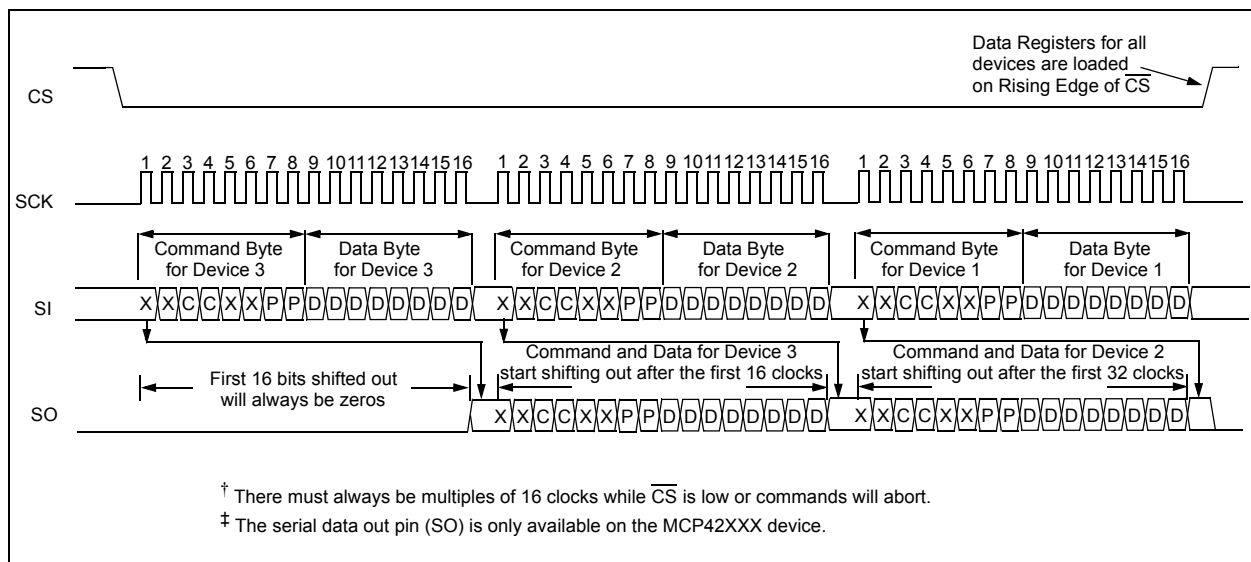
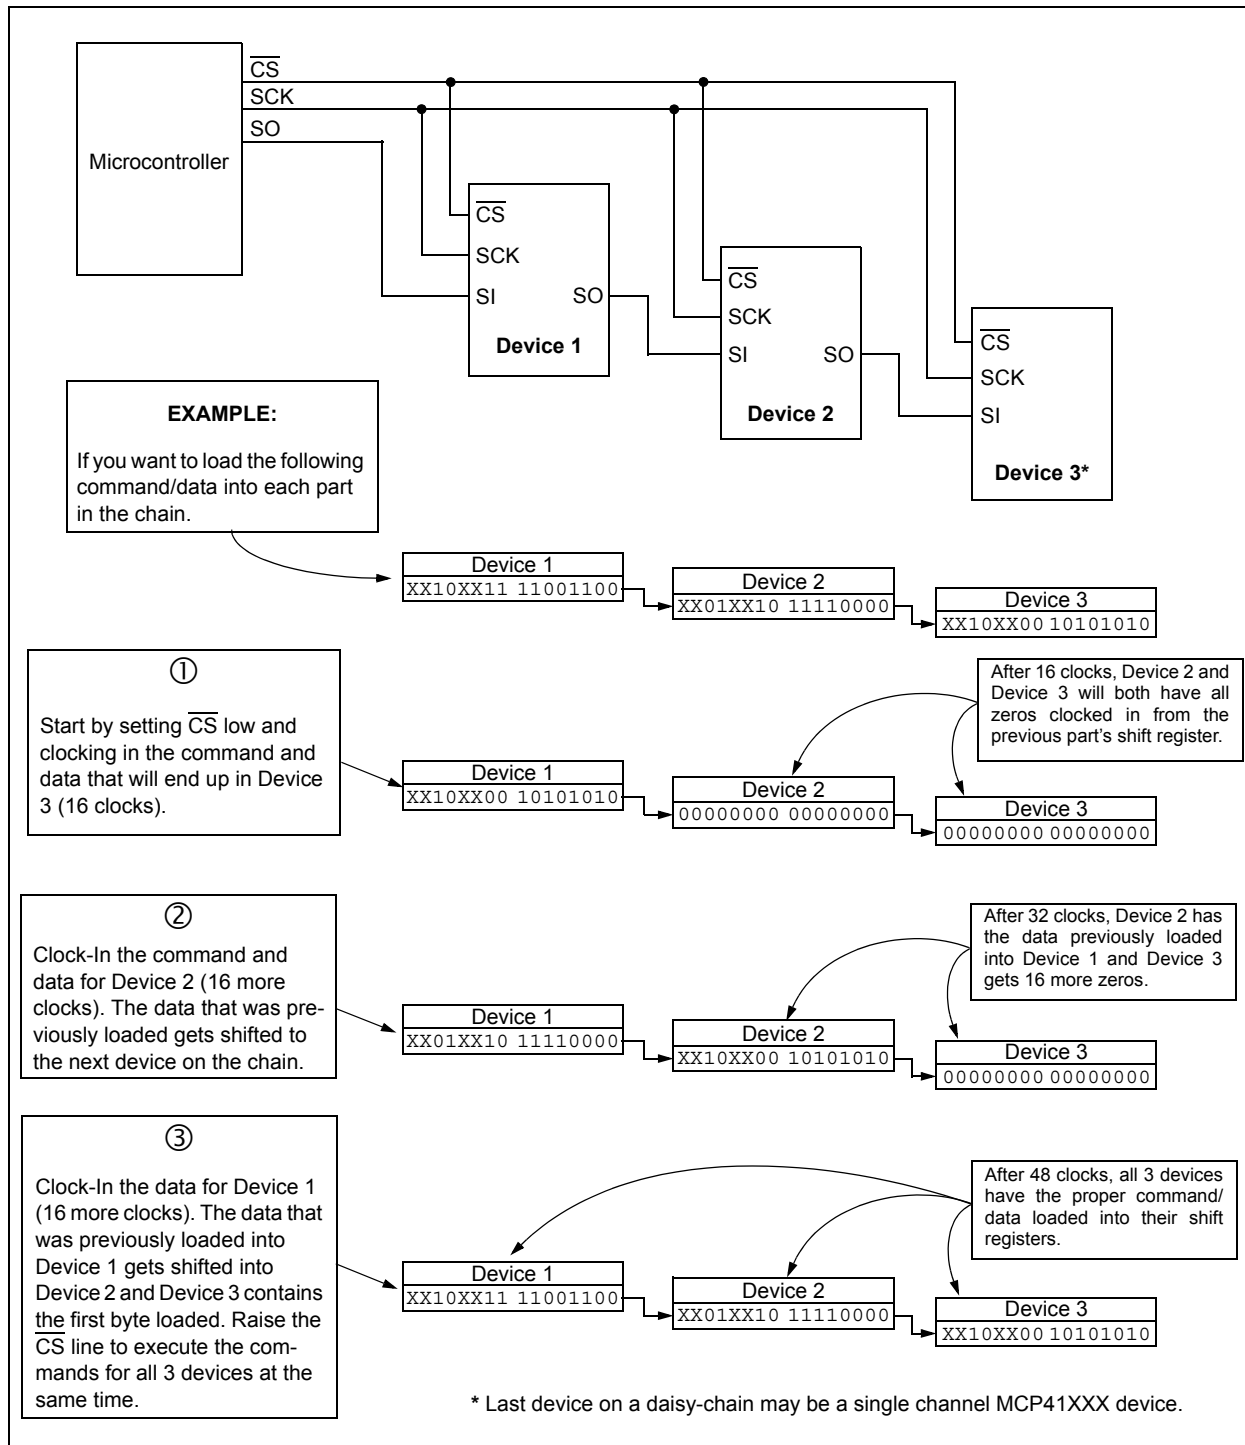

FIGURE 5-3: Timing Diagram for Daisy-Chain Configuration.
FIGURE 5-4: Daisy-Chain Configuration.
Multiple MCP42XXX devices can be connected in a daisy-chain configuration, as shown in Figure 5-4, by connecting the SO pin from one device to the SI pin on the next device. The data on the SO pin is the output of the 16-bit shift register. The daisy-chain configuration allows the system designer to communicate with several devices without using a separate CS line for each device. The example shows a daisy-chain configuration with three devices, although any number of devices (with or without the same resistor values) can be configured this way. While it is not possible to use a MCP41XXX at the beginning or middle of a daisy-chain (because it does not provide the serial data out (SO) pin), it is possible to use the device at the end of a chain. As shown in the timing diagram in Figure 5-3, data will be clocked-out of the SO pin on the falling edge of the clock. The SO pin has a CMOS push-pull output and will drive low when CS goes high. SO **will not** go to a high-impedance state when CS is held high.